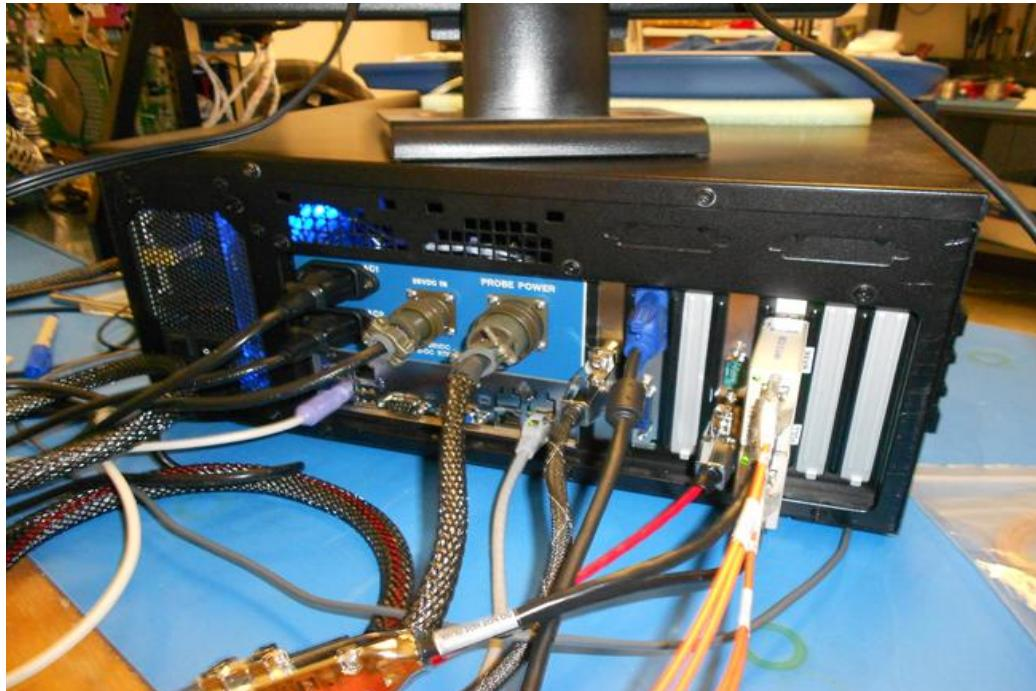

Figure 2.4.1: 3V-CPI Data Acquisition System with all cables connected
1. Verify that all cables are connected according to the “Connecting 3V-CPI Sensor Head to Data Acquisition System” **Section 2.2**. See **Figure 2.4.1**.